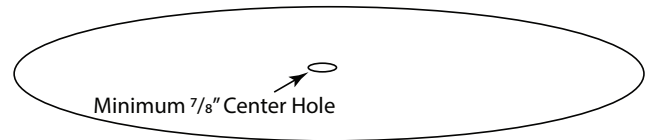
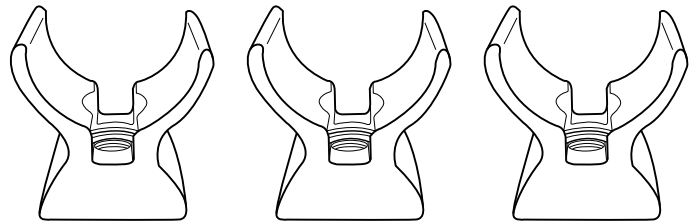
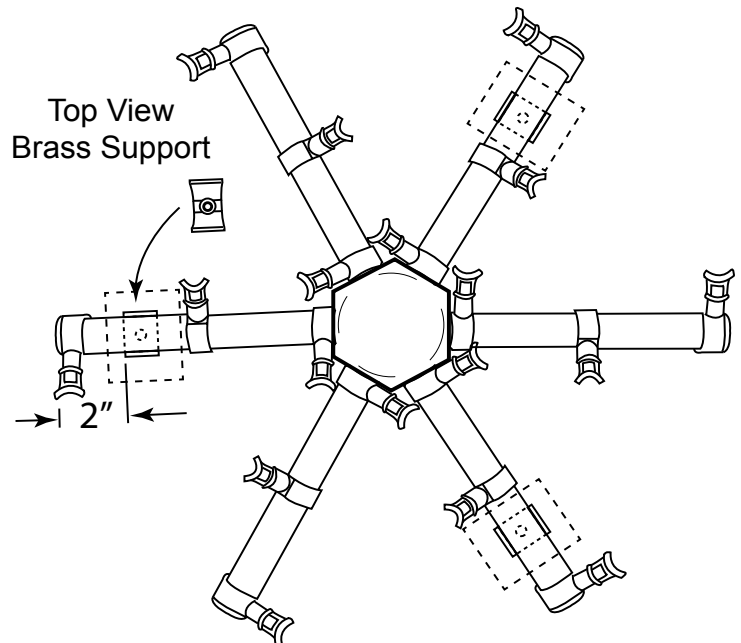

Fig. 4 Shows burner pan center hole.
Fig. 6 Brass burner supports.
Fig. 7 Locating brass burner supports.
The burner pan requires a center hole a minimum of $\frac{7}{8}$ -inch in diameter (Fig. 4). The burner also is supplied with (3) brass burner supports required for assembly (Fig. 6).
Step 2: Using the brass burner supports (supplied) in Fig. 6, install one support on every other leg, 2-inches from the end of each leg. See Fig. 7. The Pro Spur will fit snug into each burner support. **Note:** The parts bags is supplied with (4) brass burner supports. Only (3) are used with the Pro Spur burner.